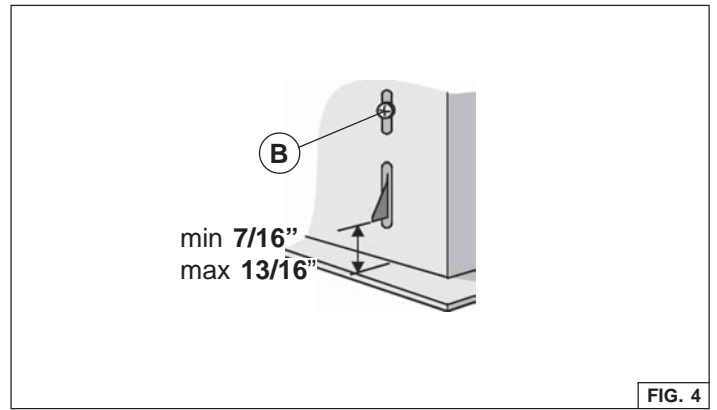

FIG. 4
3. Adjust the position of the clamping side spring by means of the proper "B" screw according to the thickness of the board panel to which it is going to be anchored (Fig. 4).